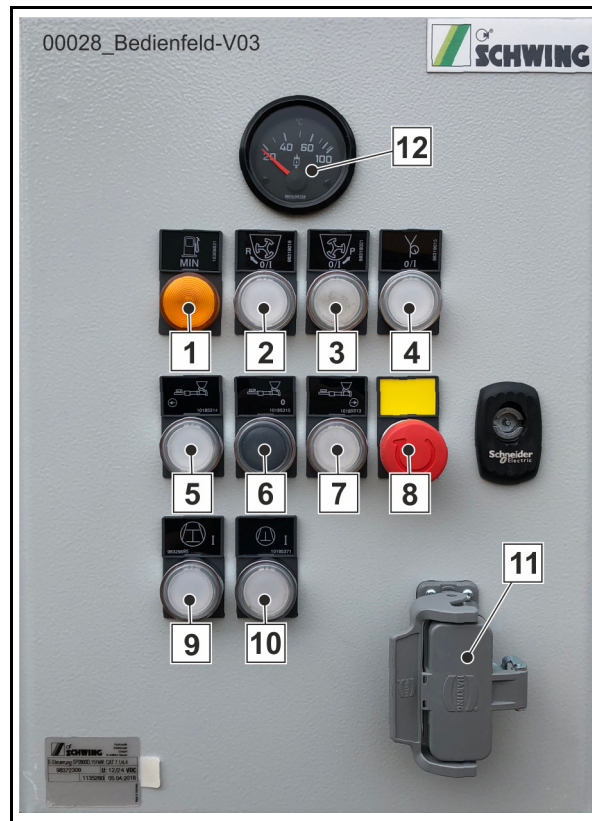

Fig. 106 Switch cabinet
- Safety fuses in the switch cabinet or operator station of the concrete pump (**Fig. 106**).
In the event that the machine has to be operated during an emergency or test operation, a bypass plug has to be inserted into the power outlet (11) (**Fig. 106**).
- Insert the bypass plug into the power outlet (11) (**Fig. 106**).